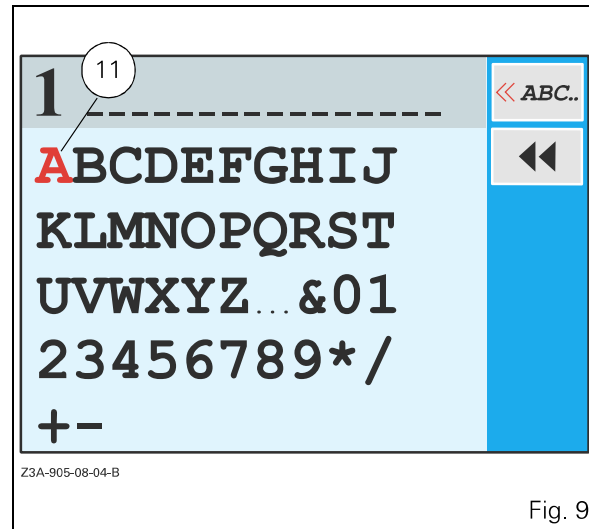

Fig. 9
- Press the key  $\ll_1$ . The previously displayed name is erased and the first letter of the alphabet is displayed in red (11 Fig. 9).